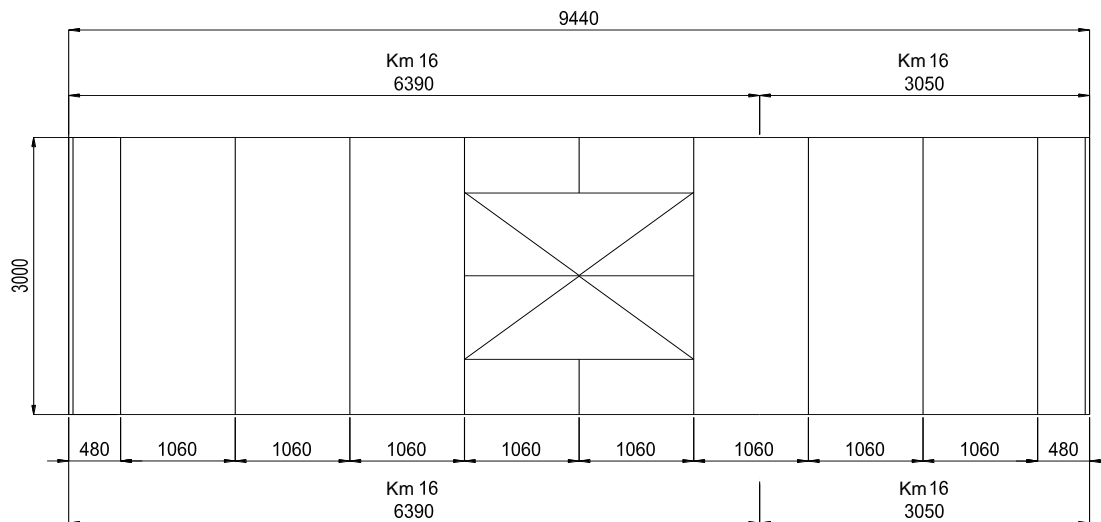

Figure 23 Example layout of the bearing and edge profiles of a continuous rooflight
1. Start by fixing the edge profiles (Km XX or Kd XX) to the rooflight base. First, lay out the profiles on the roof surface along the rooflight base according to the assembly drawing attached to the delivery. (Figure 23 Example layout of the bearing and edge profiles of a continuous rooflight) shows an example layout of edge and bearing profiles.